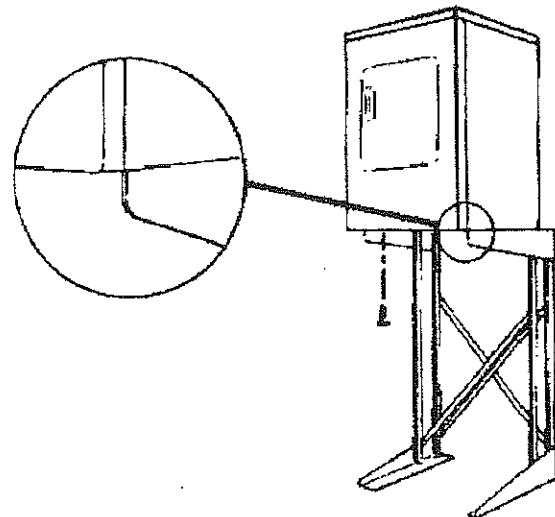

FIGURE 6
Measure the depth of dryer from front to rear. If depth is 20-1/2", use screw (9) to mount the dryer to the four (4) large holes on the stand. If depth is 22", use screw (12) to mount the dryer to the six (6) small holes on the stand. See *Figure 6* for dryer placement.